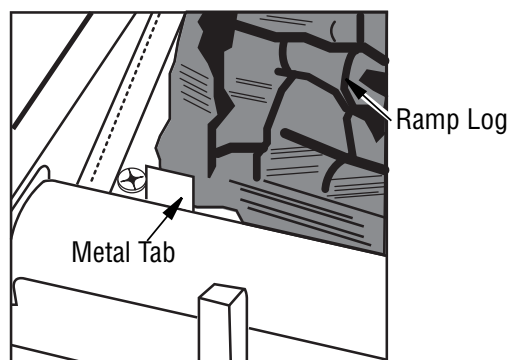

Figure 24 - Installing Log Set
2. The log must sit flat on the black sheet metal and behind the left metal tab as shown in **Figure 24**.